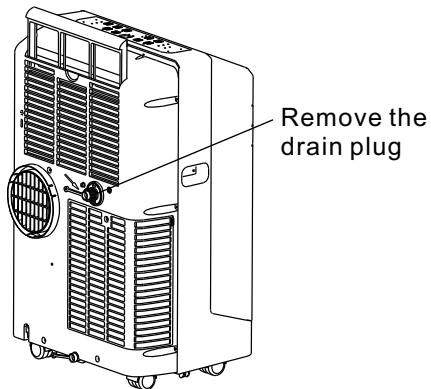

Fig.18
- While operating in Dry (dehumidifying) mode, remove the drain plug from the back of the unit, install the drain connector (5/8" universal female mender) with .3/4" hose (locally purchased). For the models without drain connector, just attach the drain hose to the hole. Place the open end of the hose directly over the drain area in your basement floor. Please refer to Fig.18 & 19.